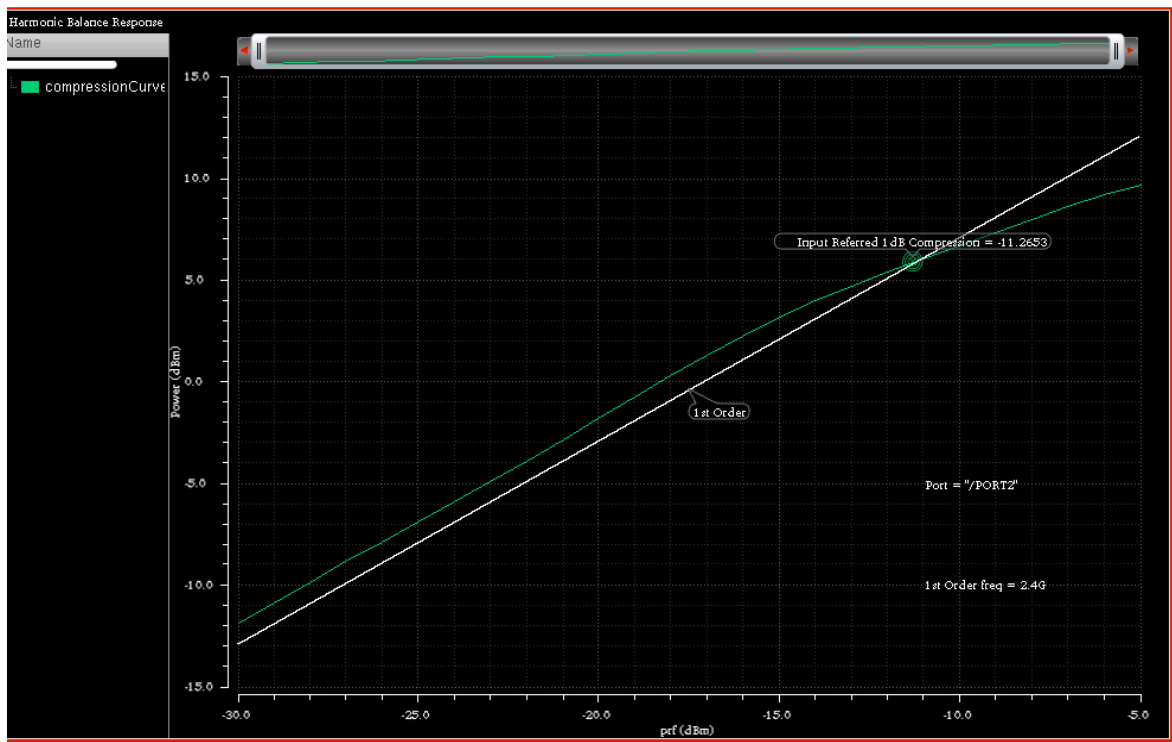

Fig 12. Compression curve and Compression point
- Compression curve and Compression point are automatically plotted, see Fig. 12